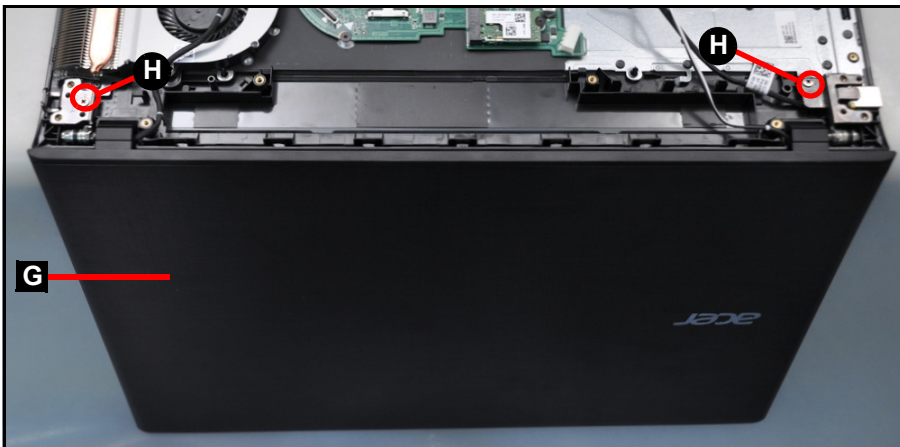

Figure 3-50. LCD Module Removal
7. Place the system on a flat surface and open the LCD module (G) as shown in Figure 3-50.
8. Remove two (2) screws (H) securing the LCD module in place (Figure 3-50).